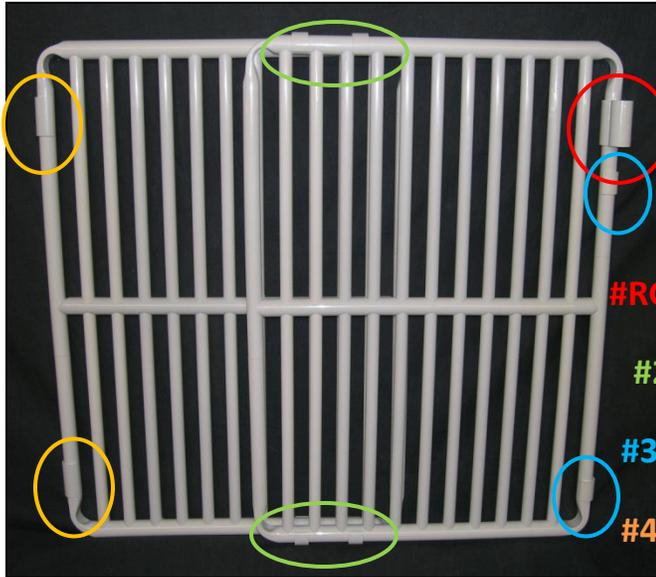

Figure 1
- If you are mounting the gate with additional **Stacking Panels** in a face mounted configuration, the overlapping upright bars need to be in-line with one another for proper setup. (See Figure 1) Read both sets of instructions completely before beginning the installation.
(See Figure 1)